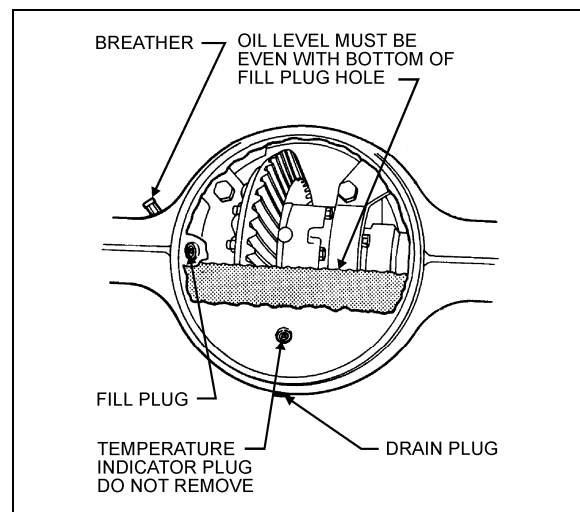

FIGURE 3: DIFFERENTIAL HOUSING BOWL
- FIGURE 3: DIFFERENTIAL HOUSING BOWL 2
Check oil level and add (if necessary) every 5,000 miles (8 000 km) or once a month, whichever comes first (Fig. 3).